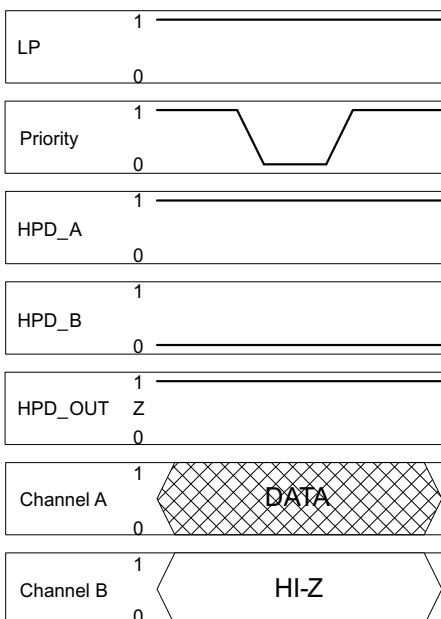

Figure 26.
- Case one: In this case only one HPD input is HIGH. A port whose HPD input is LOW cannot be selected. In this case, the state of the priority pin has no effect on the switch (see Figure 26).